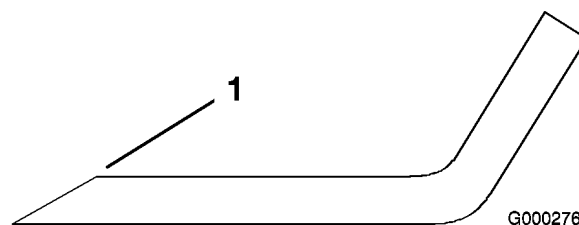

Figure 54
1. Use a file to sharpen the cutting edge at both ends of the blade (Figure 54). Maintain the original angle. The blade retains its balance if the same amount of material is removed from both cutting edges.